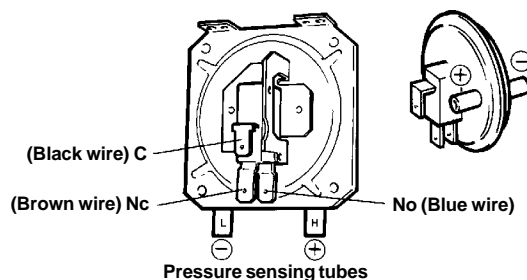

Fig. 24
## 8.8 AIR PRESSURE SWITCH - Fig. 24
4. Connect the wiring to the new switch, black to C, brown to NC, blue to NO and reconnect the pressure tubes, (red tube to +, clear tube to —, see Fig. 24).